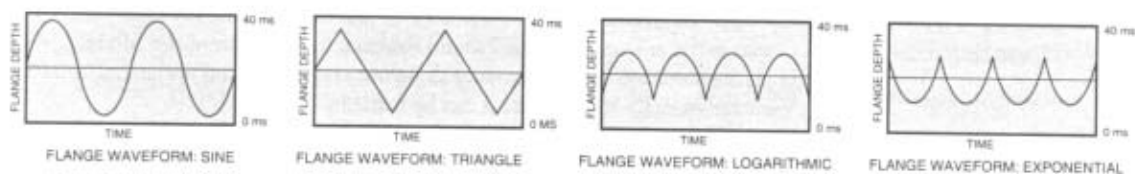

Fig. 4-9 Flanger LFO Shapes
- Flange Waveform** Controls the LFO waveform pattern of the flange effect. SINE produces a smooth sine wave-type flange with even transitions in and out of the turnaround points. TRIANGLE is a linear flange effect, and ramps the pitch of the wave up and down with no slowing at turnaround points. Flangers usually sound best using LOGARITHMIC or EXPONENTIAL waveforms, but don't be afraid to experiment. See fig. 4-9.